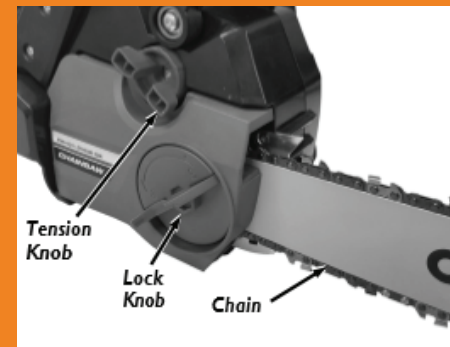

Figure 5
6. Loosely secure the Side Cover onto the Bar Post (**Figure 5**).